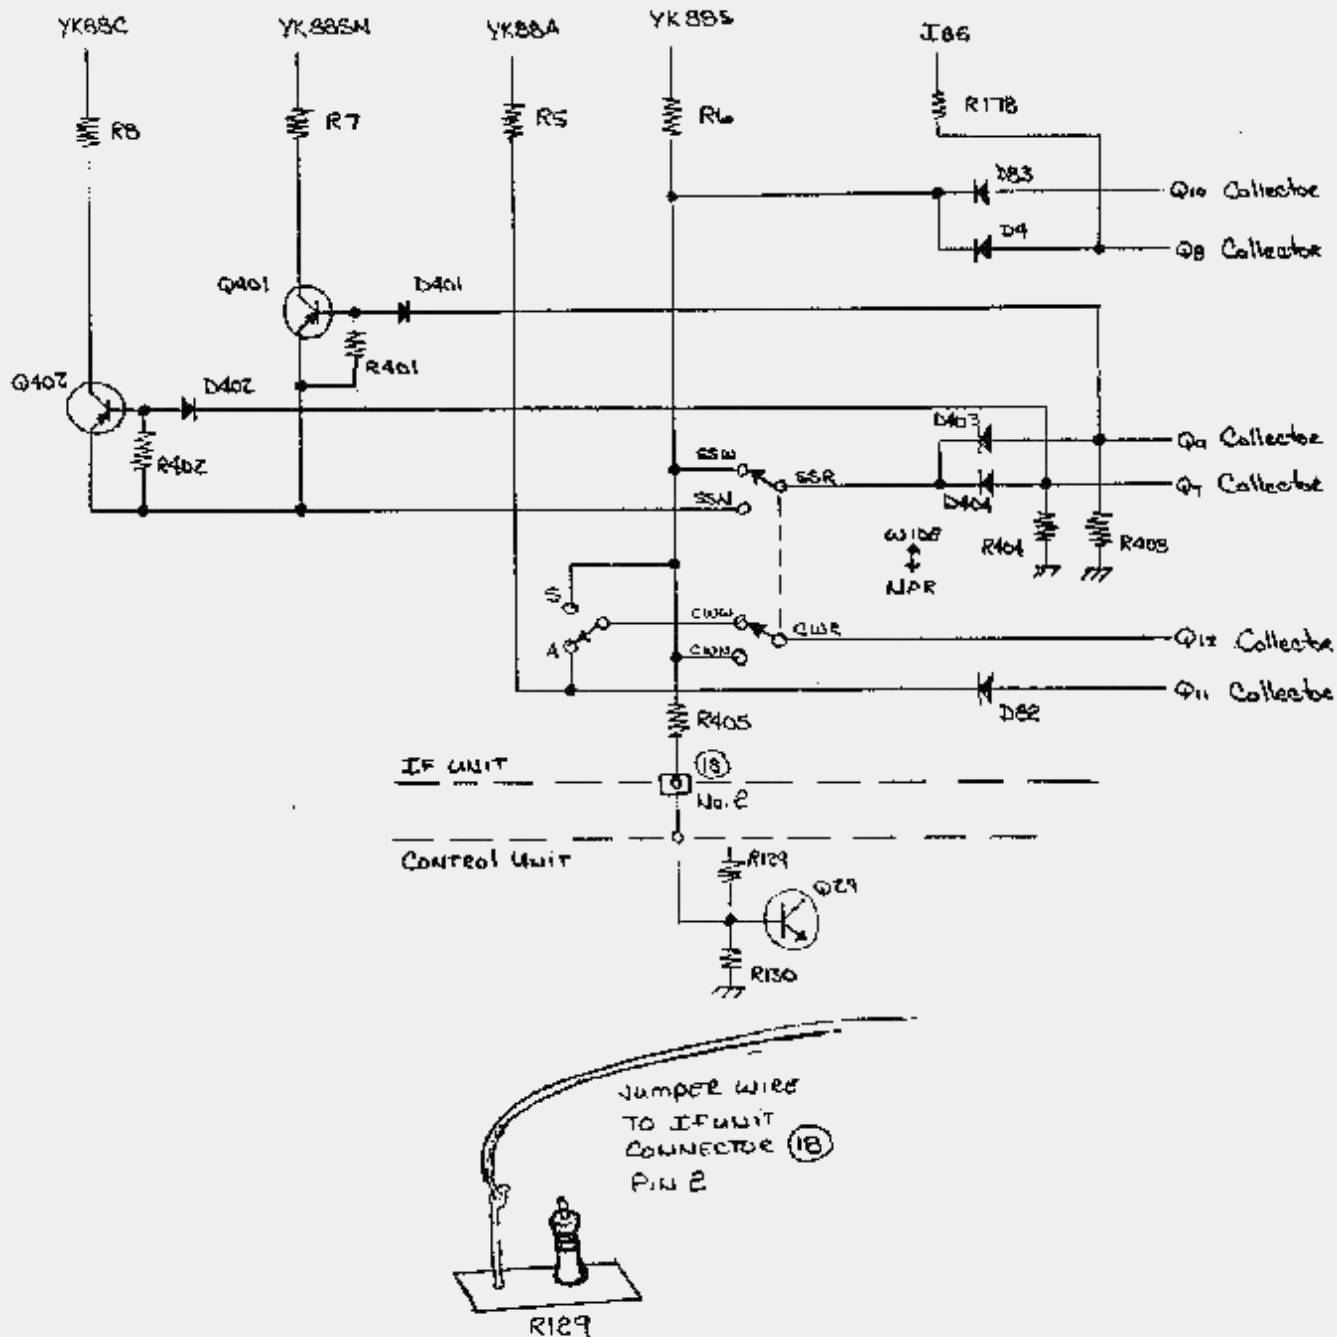

FIGURE 5
14. Solder a jumper wire to the metal lead of resistor R129, as shown in figure 5. Connect the other end to IF units connector 18 pin 2 from the foil side of the board as shown in figure 4. The wire may be conveniently routed between the circuit board and the chassis.